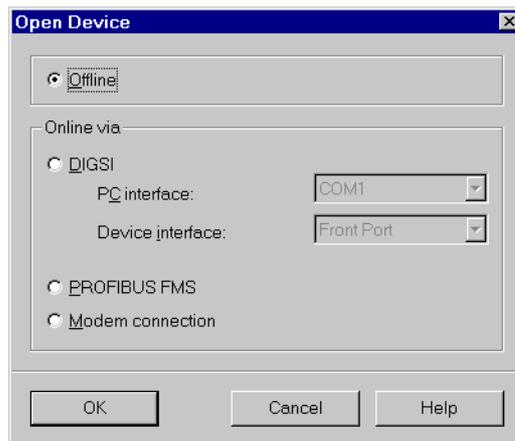

Figure 9-5 DIGSI® 4, dialogue field **Open Device**
- Double click on this item. The **Open Device** dialogue box opens, as shown in Figure 9-5.